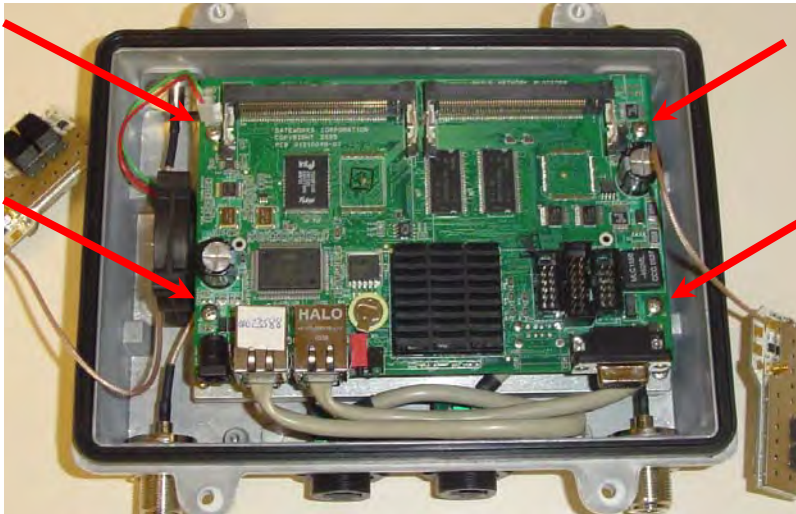

Fig.6
Step 3) Unscrew the motherboard from the node. The motherboard is connected by four screws as seen below (Fig.6).